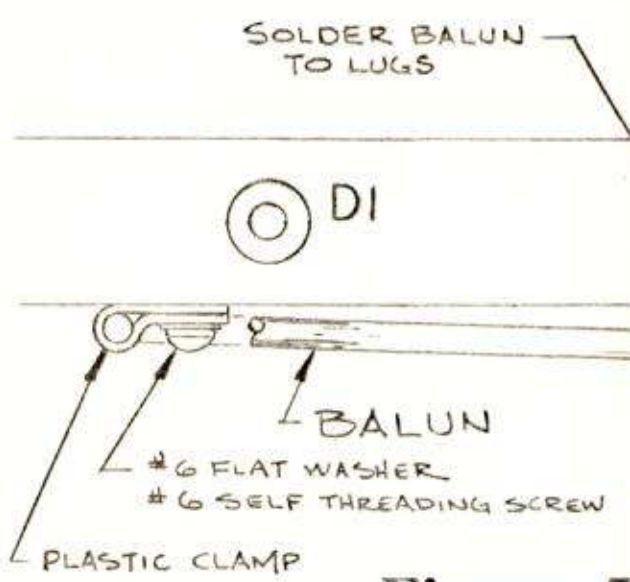

Figure 5
- A. See figure 5. Secure the connector assembly to the AFT boom section noting that connector faces forward. Insert ends of balun thru lugs on connector assembly and slide into position shown, securing balun to boom with plastic clamp.
- C. See figures 5, 6 and 7. Solder the precut wire matching sections in place as shown. Solder balun leads to wire matching sections, and balun jacket to connector assembly lugs as shown.